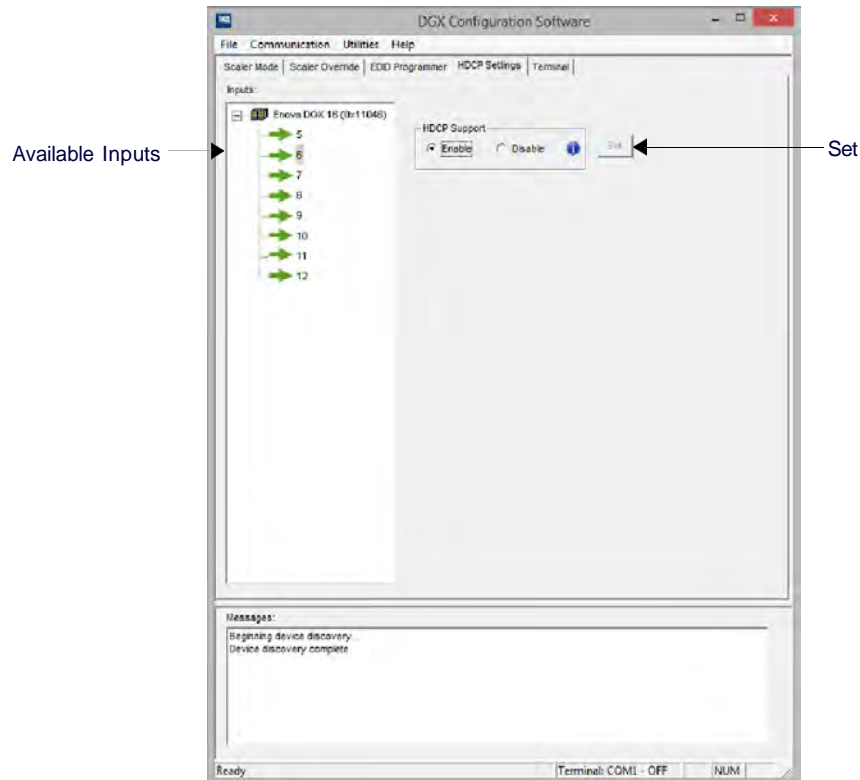

FIG. 183 HDCP Settings view
1. Select the input (or select multiple inputs) on the left (FIG. 183):